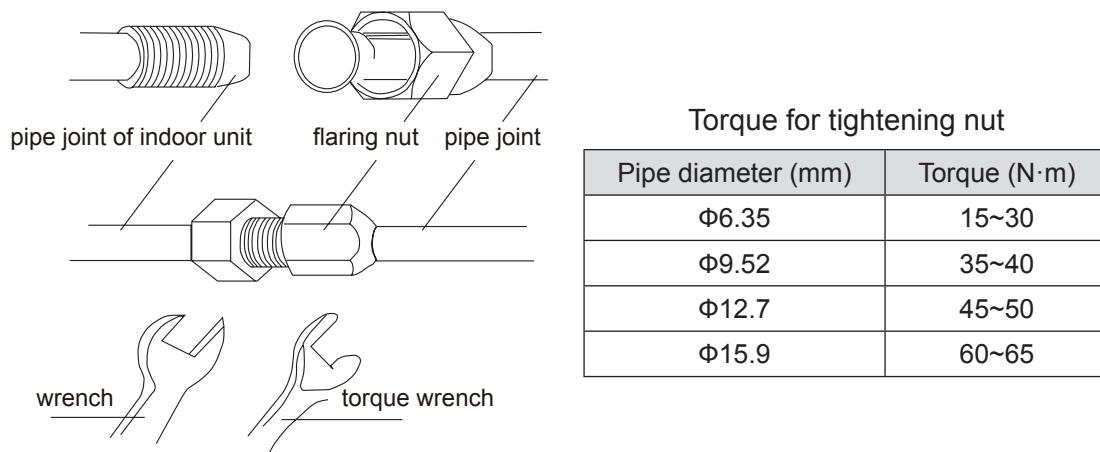

Fig.4.2
- (1) Aim the flaring port of copper pipe at the center of screwed joint and then tighten the flaring nut with hand as shown in Fig 4.2.
- (2) Use a torque wrench to tighten up the flaring nut until the wrench gives out a click sound.